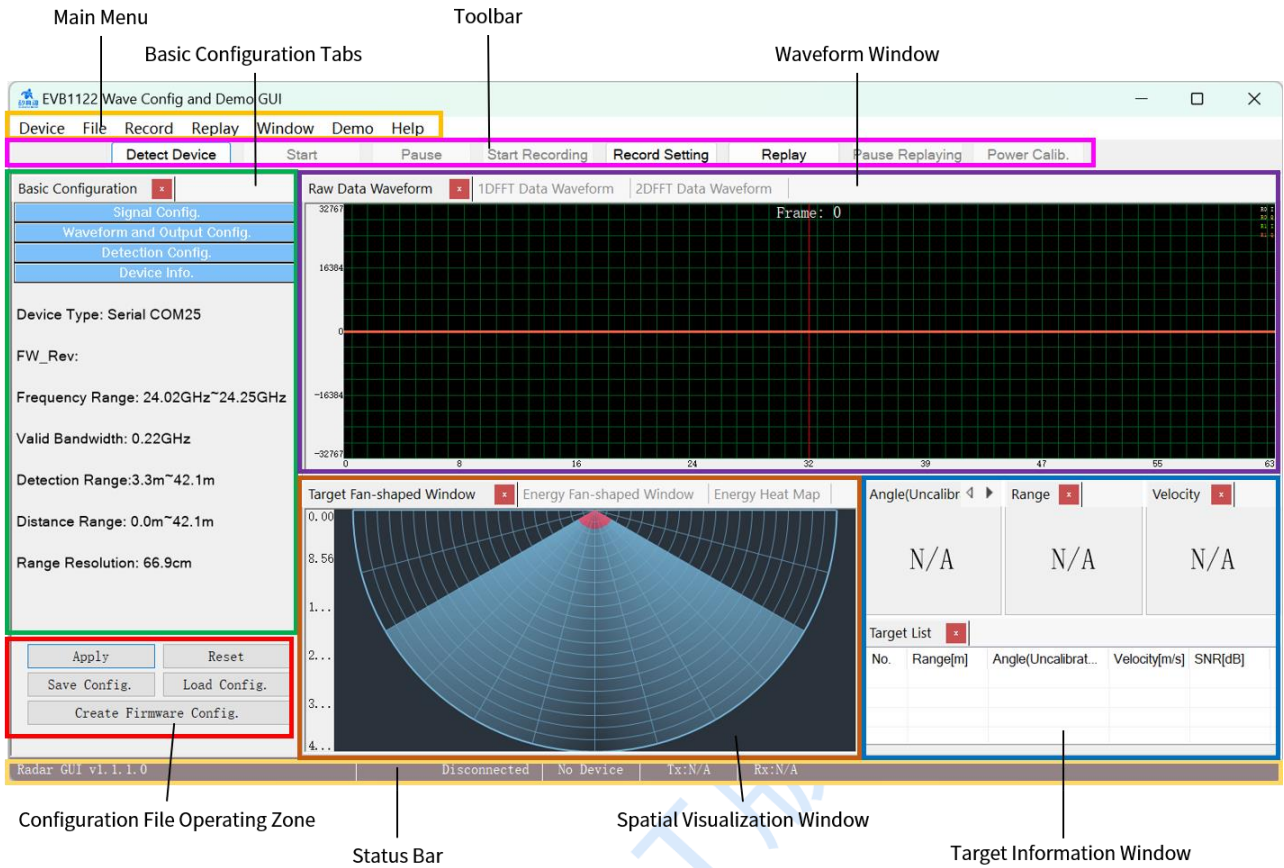

Figure 4-2 EVB1122 Waveform Configuration and Demonstration GUI
Step 1: Start the *EVB1122 Waveform Configuration and Demonstration GUI.exe*, the main page will appear as shown in Figure 4-2;